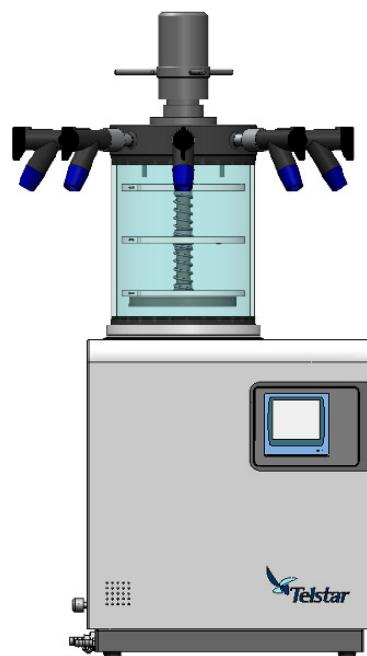

Fig. 6
- **Outside the condenser**: This is recommended when the quantity of product allows you to load the three plates. It is advisable to freeze the product inside the condenser, because the heated plates will be cold and heating rates from negative temperatures may be reached. Once the product is frozen, remove the plates of the condenser and place them in the chamber (see Fig. 6). Also it is possible to load a product that has been frozen in other equipment. The equipment allows you to program recipes (see chapter 10) to run a complete cycle without making any manual actions once the product is frozen and the chamber has been placed.